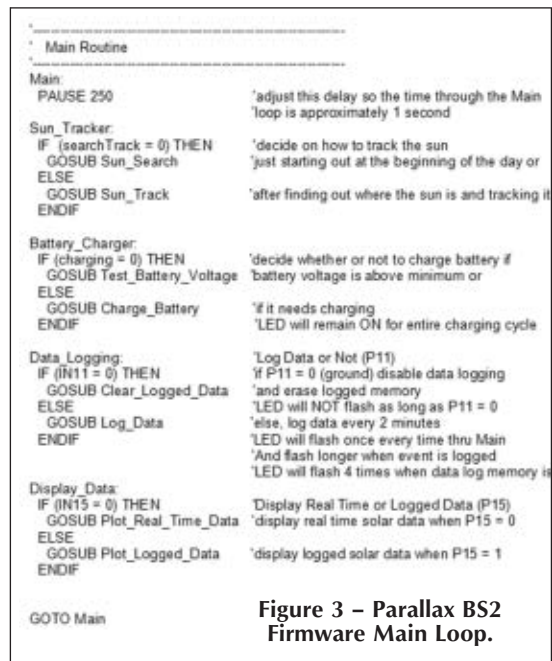

Figure 3 – Parallax BS2 Firmware Main Loop.
■ FIGURE 3. Thermometer Demo.
one second time delay. However, I put a PAUSE statement at the top of the Main Loop to adjust the total time to about a second (Figure 3).